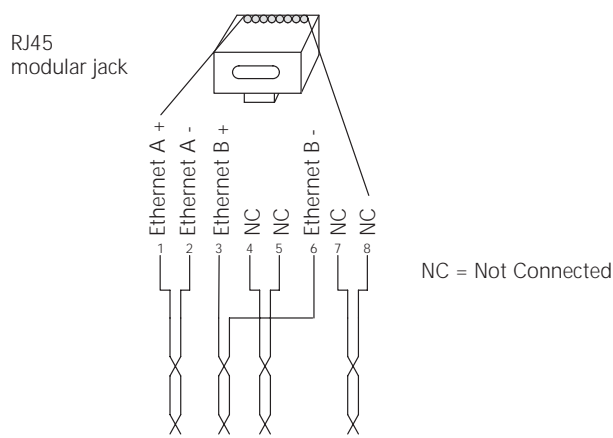

Figure 16. Connector pinning of the Ethernet cable.
- 2 Connect the cable to a RJ45 modular jack. For information on the pinning, see figure 16.